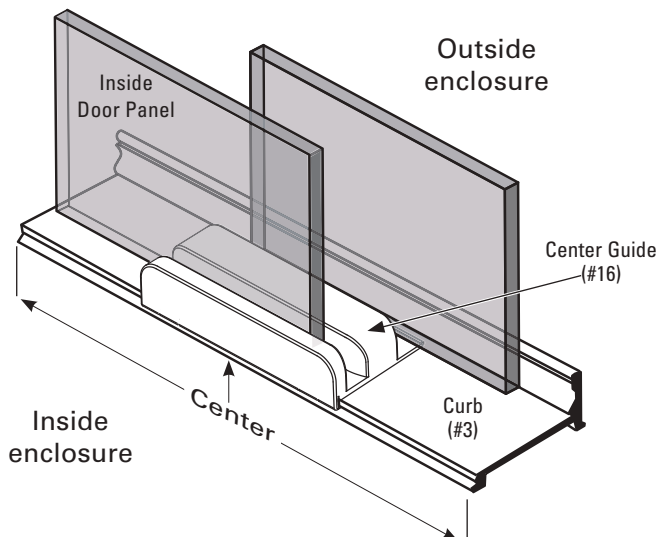
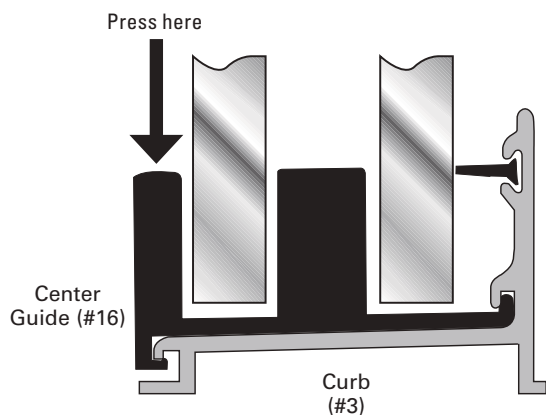

Figure 13b
Figure 13c
E. Slide the Center Guide under the Door Panel. Center the Center Guide on the pencil mark you made (See **Figure 13b**). Press the Center Guide onto the Curb and lock it into position by pressing firmly on the back edge of the Center Guide as shown in **Figure 13c**. You should feel it lock into place. If the Center Guide does not lock into position easily, it may be necessary to press firmly on one end to start the process and work along the back of the Center Guide in order to lock it into place.